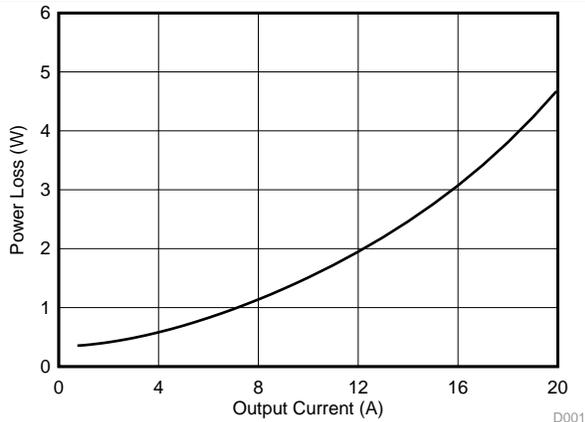
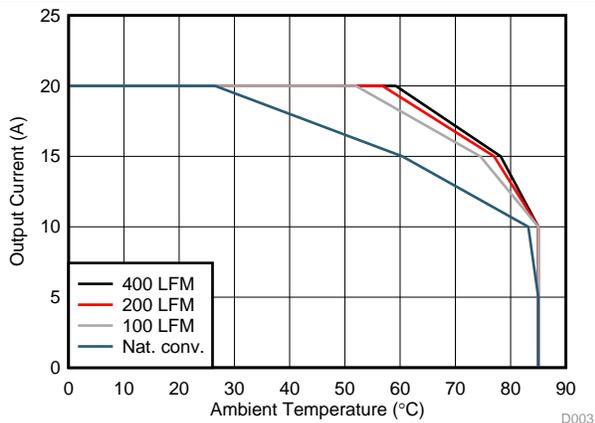
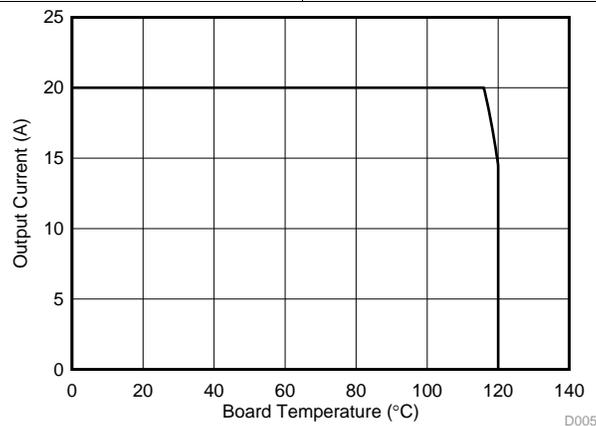
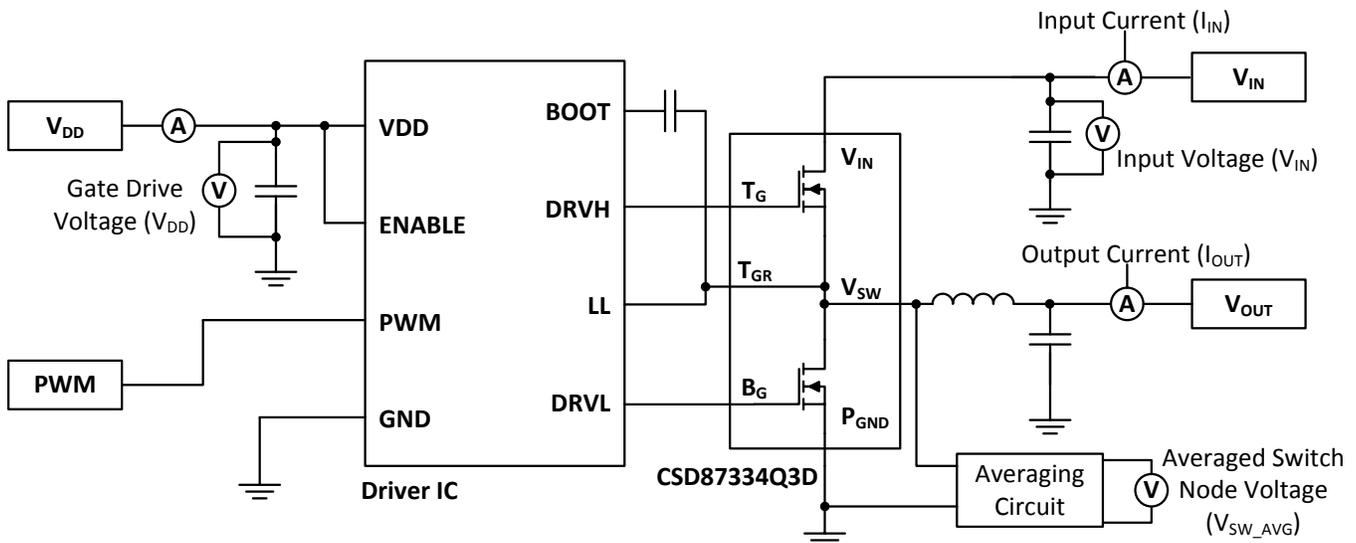

Figure 1. Power Loss vs Output Current
Figure 3. Safe Operating Area – PCB Horizontal Mount
Figure 5. Typical Safe Operating Area
Figure 19. Typical Circuit Application
The Typical Power Block System Characteristic curves (Figure 1 through Figure 9) are based on measurements made on a PCB design with dimensions of 4.0 inch (W) × 3.5 inch (L) × 0.062 inch (H) and 6 copper layers of 1-oz. copper thickness. See Application and Implementation for detailed explanation. Conditions for Figure 1 through Figure 5 are given by the following; $V_{IN} = 12\text{ V}$, $V_{GS} = 5\text{ V}$, $V_{OUT} = 3.3\text{ V}$, $f_{SW} = 500\text{ kHz}$, $L_{OUT} = 1.0\text{ }\mu\text{H}$. $T_A = 125^\circ\text{C}$, unless stated otherwise.
MOSFET centric parameters such as $R_{DS(ON)}$ and Q_{gd} are needed to estimate the loss generated by the devices. In an effort to simplify the design process for engineers, Texas Instruments has provided measured power loss performance curves. Figure 1 plots the power loss of the CSD87334Q3D as a function of load current. This curve is measured by configuring and running the CSD87334Q3D as it would be in the final application (see Figure 19). The measured power loss is the CSD87334Q3D loss and consists of both input conversion loss and gate drive loss. Equation 1 is used to generate the power loss curve.
The power loss curve in Figure 1 is measured at the maximum recommended junction temperatures of 125°C under isothermal test conditions.
The SOA curves in the CSD87334Q3D data sheet provides guidance on the temperature boundaries within an operating system by incorporating the thermal resistance and system power loss. Figure 3 to Figure 5 outline the temperature and airflow conditions required for a given load current. The area under the curve dictates the SOA. All the curves are based on measurements made on a PCB design with dimensions of 4 inches (W) × 3.5 inches (L) × 0.062 inches (T) and 6 copper layers of 1-oz. copper thickness.
- Power Loss at 15 A = 2.8 W (Figure 1)